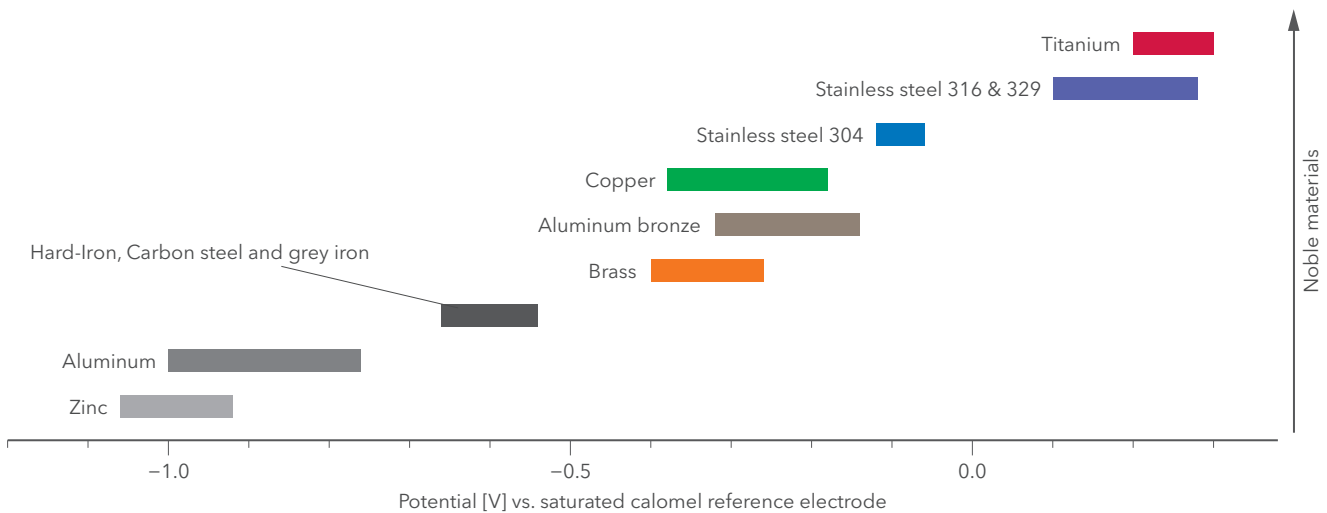

Figure 2: The electrochemical potential of metals can be measured in different water solutions and listed in galvanic series.
- Magnitude of potential difference (Figure 2). A larger potential difference increases the corrosion rate.